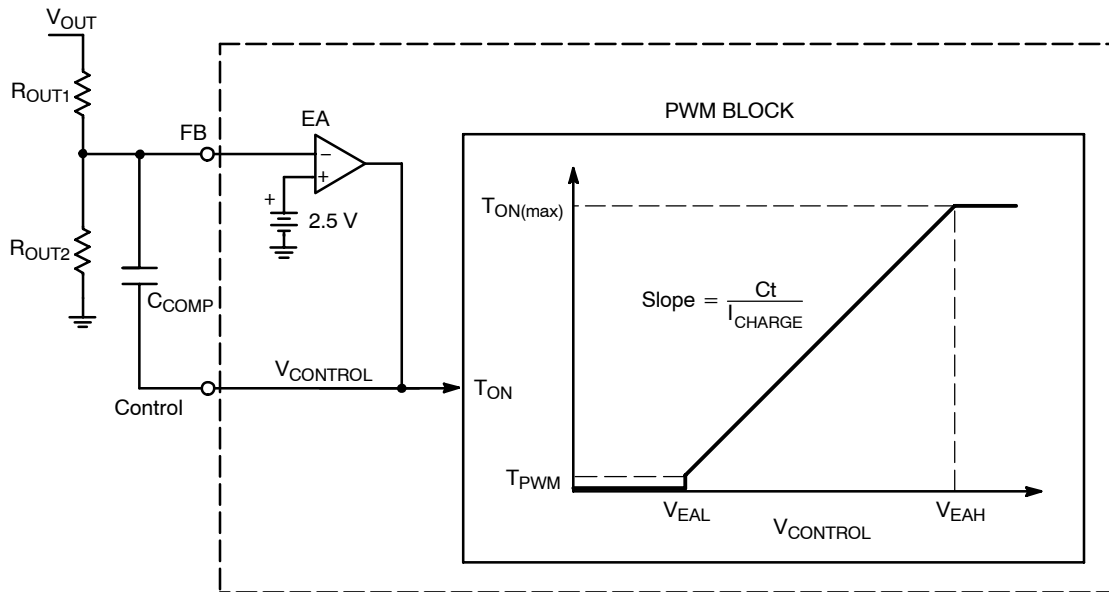

Figure 25. Error Amplifier and On Time Regulation Circuits
The NCP1606 is configured to regulate the boost output voltage based on its built in error amplifier (EA). The error amplifier’s negative terminal is pinned out to FB, the positive terminal is tied to a $2.5 V \pm 1.5\%$ reference, and the output is pinned out to Control (Figure 25).